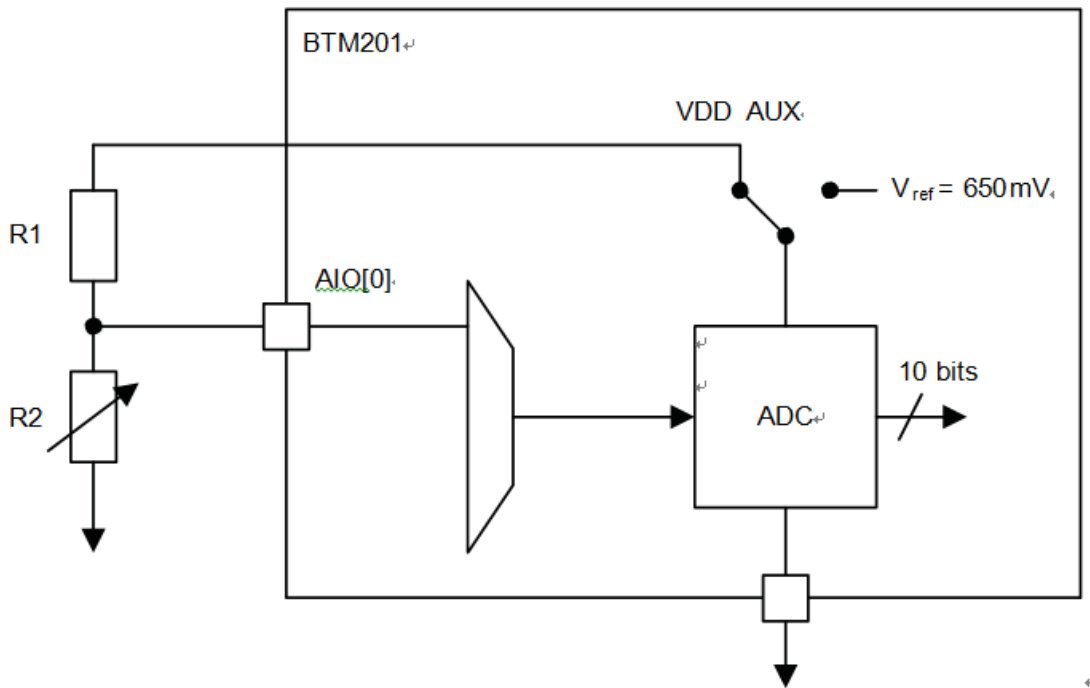

Figure 8: 10-bit Aux ADC Reference
- The ADC reference is VDD_AUX, see Figure 8.
NOTE: Figure 8 shows an additional internal 650 mV reference. This is for test purposes only. The 10-bit Aux ADC is not available during XTAL startup or battery voltage and temperature monitoring. Therefore the time to perform a conversion may be longer if the hardware is already using the ADC.